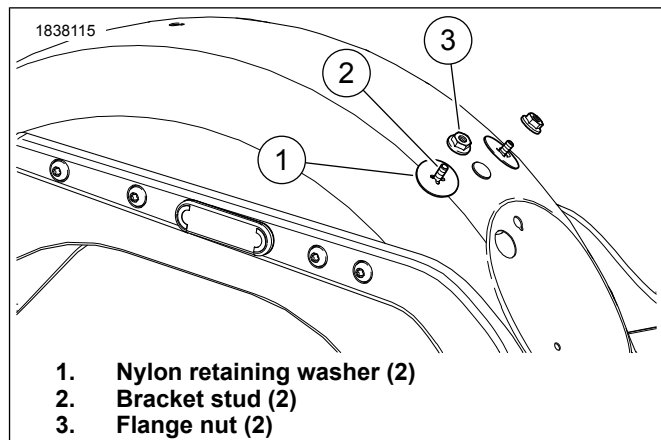

Figure 2. Studded Seat Bracket
4. See Figure 2. Remove studded seat bracket, if equipped. Discard.
- a. Remove nylon retaining washers (1) from bracket studs (2).